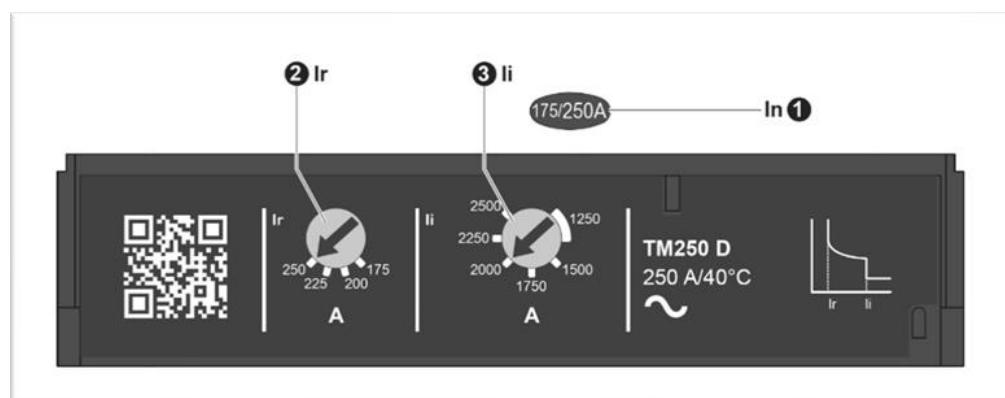

Figure 6. Schneider Micrologic Vigi 7.2E Trip Unit – Current Settings
6.4 For Schneider Micrologic Vigi 7.2 Electronic Trip Units, the adjustments for current settings are shown in Figure 6.